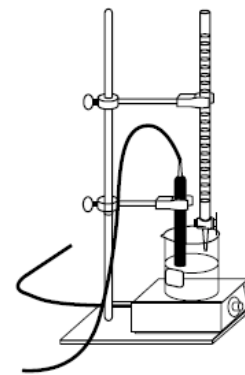

Figure 2.
A sample setup for a titration is shown in Figure 2, where a buret containing the titrant is clamped to the support stand and a beaker or flask containing the analyte is set a-top a stir plate. If a pH probe is inserted into the solution, a titration curve can be constructed by plotting the pH of the solution on the y-axis versus the volume of titrant added on the x-axis. The shape of the titration curve may be used to distinguish strong and weak acids in the analyte, and also permits graphical analysis of the equivalence point. At the equivalence point, moles of added titrant are stoichiometrically related to moles of analyte in the sample.
- Review the setup shown in Figure 2 for a titration procedure.